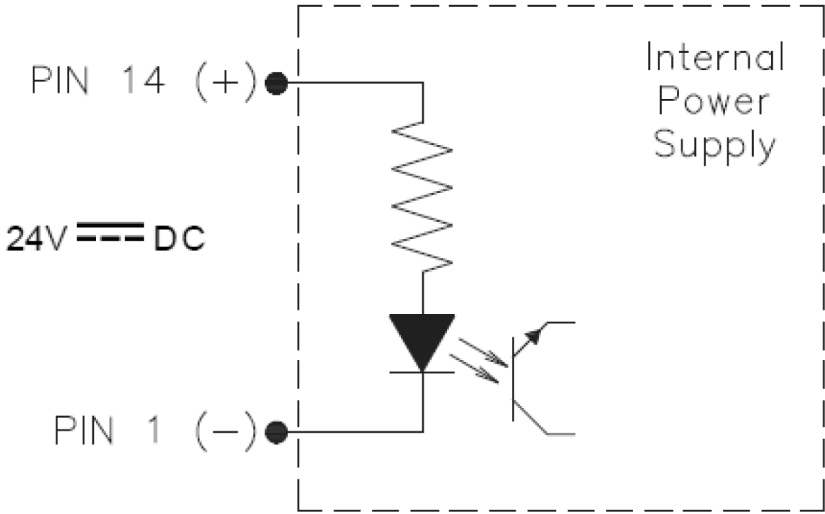

Figure 6. IQ Power BPS-C Alarm Output Connector
6. Remote On/Off Control (if used). The power supply “Alarm Output” connector also provides for remote on/off control of the power supply. Remote on/off control is configured with a jumper on a pin header on the main power supply circuit board. The default configuration is with remote control disabled. The remote control can be configured “normally off” or “normally on” by the jumper setting (refer to Figure 6). To access the jumpers the cover will have to be removed from the power supply. Disconnect all input power from the power supply then remove the six screws securing the cover and slowly and carefully remove the cover.
Reposition jumper to enable remote control either “normally on” or “normally off”, as desired (see Figure 6). Then replace cover and secure with six screws.